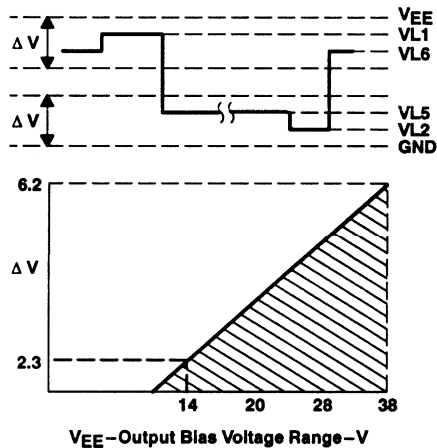

Figure 1
4. V_{Ln} voltage range should be within ΔV (see Figure 1).